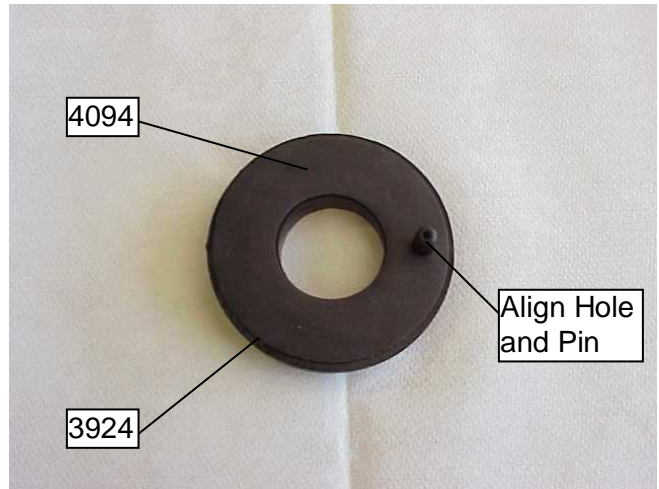

Figure 4.
3. Remove the 4094 Gasket adhesive backing paper. With the gasket adhesive toward the 3924 Backing Plate, take care to align the small hole on the gasket with the pin on the backing plate. Apply the gasket to the backing plate. Repeat. **See Figure 4.**